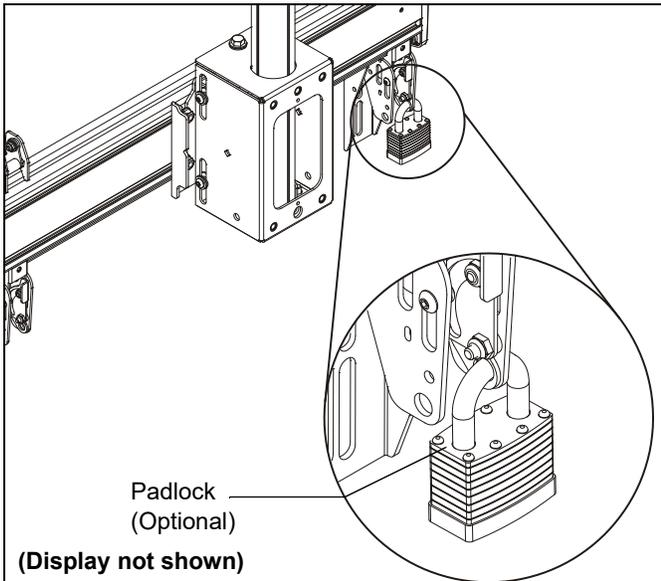

Figure 23
1. **OPTIONAL:** Add padlock (not included) to each interface bracket to lock display to ceiling mount. (See Figure 23)